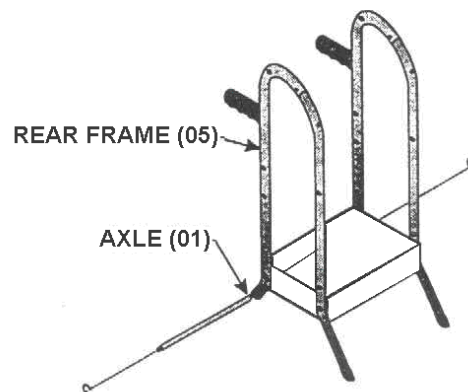

*Figure 2. Large Tray
3. Assemble the Large Bottom Tray (03) between the two frame assemblies. Attach using two screws, four washers and two nuts per side.
4. Insert the Axle (01) through the bottom holes in the Rear Frames, as shown in *Figure 2*. Snap on one C-clip per side into the groove just outside each rear frame.